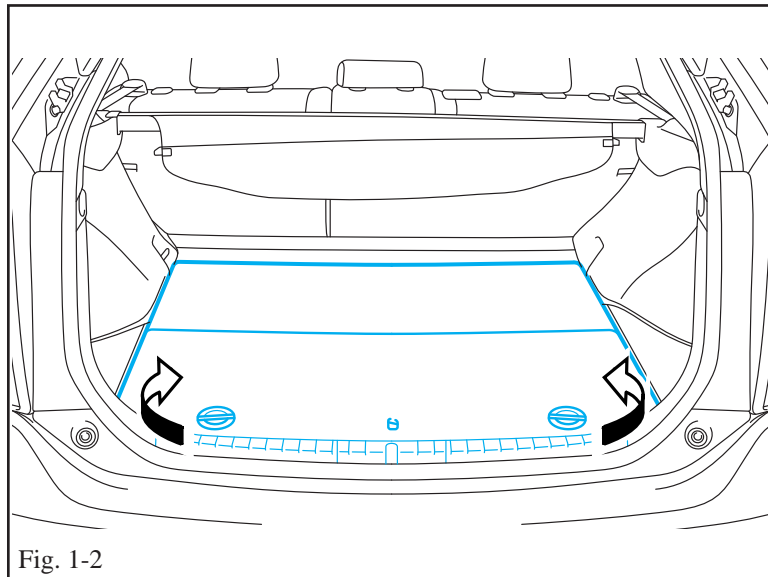

Fig. 1-2
(1) Release the lock knobs by placing them in the unlock position.
(2) Lift up and remove the rear floor board cover. (Fig. 1-2)